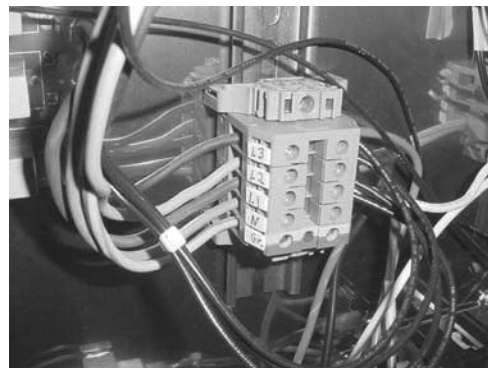

Figure 4
4. Connect the power cord to the terminal block as shown in Figure 4.